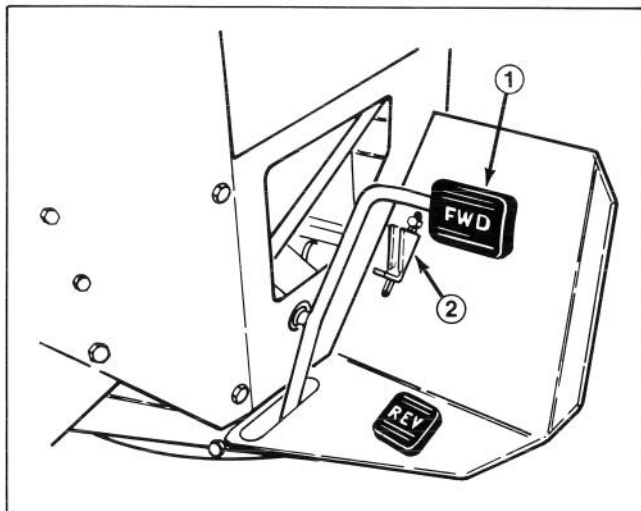

Figure 19
**Traction Pedal (Fig. 19 & 20)** — Traction pedal has two functions: one is to make the machine move forward, the other is to make it move rearward. Using the heel and toe of the right foot, depress top of pedal to move forward and bottom of pedal to move rearward. **For operator comfort, do not rest heel of foot on reverse, when operating forward.**
**Traction Pedal Stop (Fig. 19)** — Used in conjunction with traction pedal to maintain a constant mowing speed.